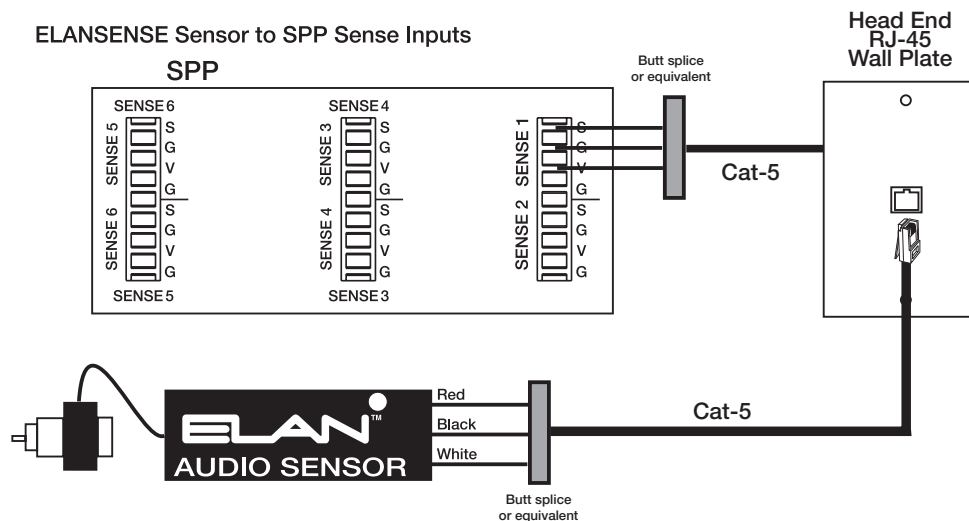

Figure 3-12: Sense Input to SPP Connections
The Sense Trigger Inputs of the S86A are primarily for use with VIA! Touch Panels and Olé Touchpads. An ELAN™SENSE Sensor can be connected that will cause VIA! Touch Panels and Olé Touchpads to execute IR or serial commands. Use VIA!TOOLS or ELANTOOLS setup software to program Trigger Input functionality. Wiring the Sense Inputs consists of punching down Voltage (V), Sense (S), and Ground (G) as shown in Figure 3-12.